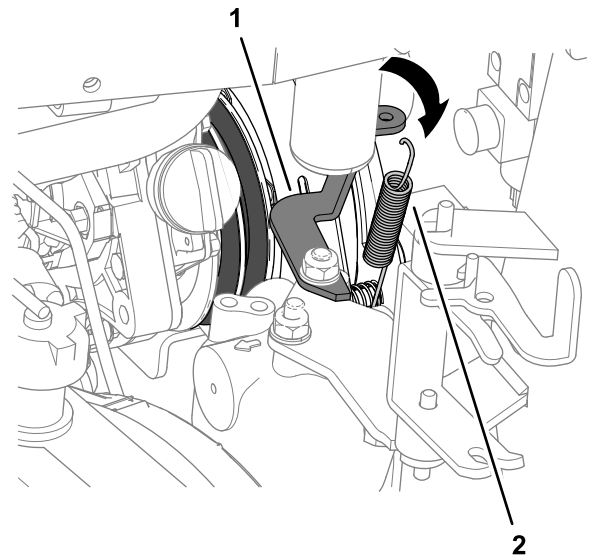

Figure 90
5. At the radiator side, unhook the clutch-damper spring from the spring bracket (Figure 90).
4. Hook the clutch-damper spring between the inboard clutch-plate bolt and the spring bracket; refer to Figure 90 in Removing the PTO Belts (page 64).